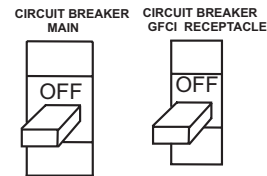

Figure 39. GFCI and Main Circuit Breaker (OFF)
5. For 2000 Version: Place both the **MAIN** and **GFCI** circuit breakers to the "OFF position"(Figure 39).